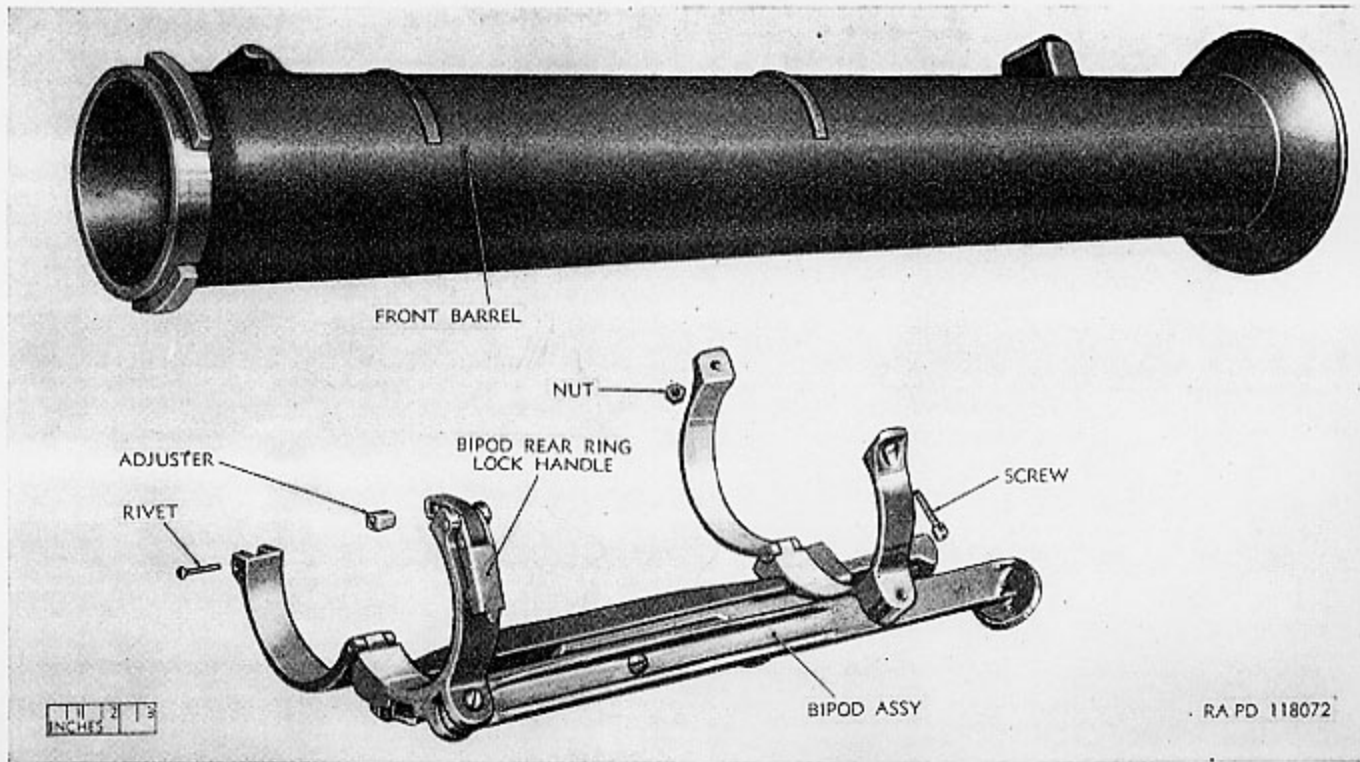

Figure 24. 3.5-inch Rocket Launcher M20B1—bipod removed from front barrel.
(1) Some M20 launchers are equipped with bipod assemblies having continuous ring-type front and rear rings. With these launchers, it is impossible to remove the bipod assembly from the front barrel without first removing the stops, the barrel latch strike, and the muzzle deflector. To install the bipod assembly, slip the front barrel into the rings and then install the stops, the barrel latch strike, and the muzzle deflector. The bipod assemblies will be removed only by ordnance maintenance personnel.
(2) M20B1 launchers and some M20 launchers are equipped with bipod assemblies having split ring-type front and rear rings (fig. 24).
(2) For M20 launchers equipped with bipod rear rings of the split ring type (fig. 24) and M20B1 launchers, adjust the tension of the bipod rear ring clamping spring as described in paragraph 45d (2).